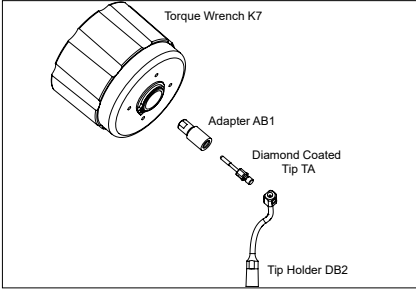

Fig.3
- 3 Insert the AB1 adapter into the diamond coated tip TA or TF as shown in Fig. 3.
- 4 Use only the K7 torque wrench, supplied with the "Crown Preparation Kit", to secure the diamond coated tip (TA or TF) to the tip holder (DB2). Refer to Fig. 3.